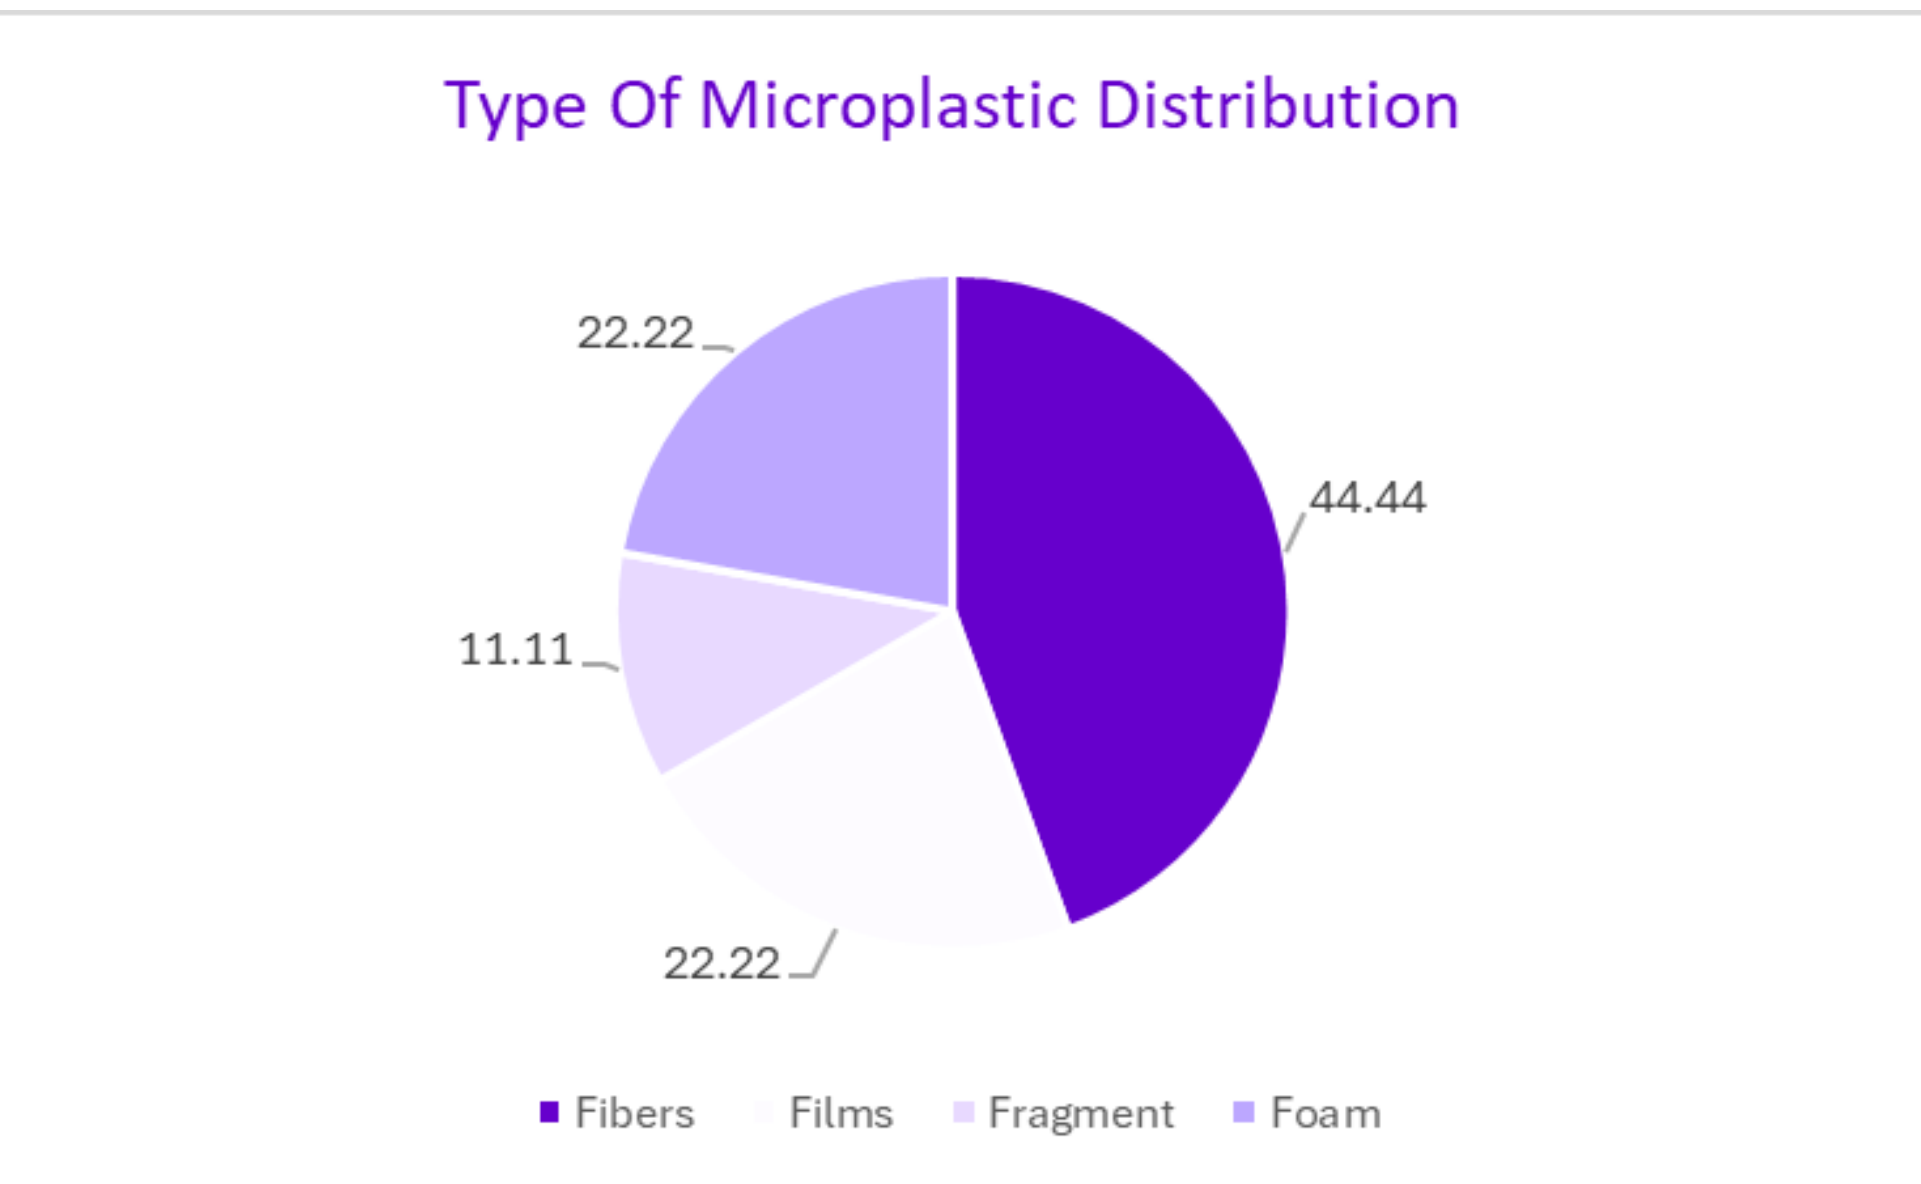

Figure 3. Percentage of microplastic by type.
- Most of the microplastics were fibers (44%) (Figure 3.)